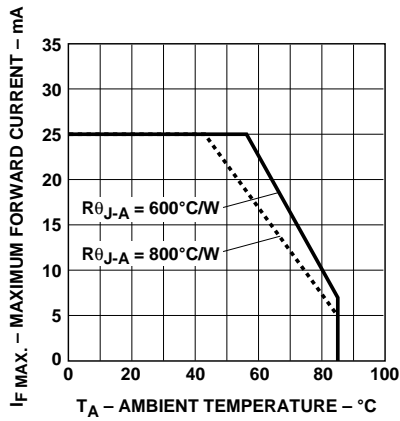

Figure 4. Maximum Forward Current vs. Ambient Temperature.
1. Derate linearly as shown in Figure 4 for temperature above 25°C .